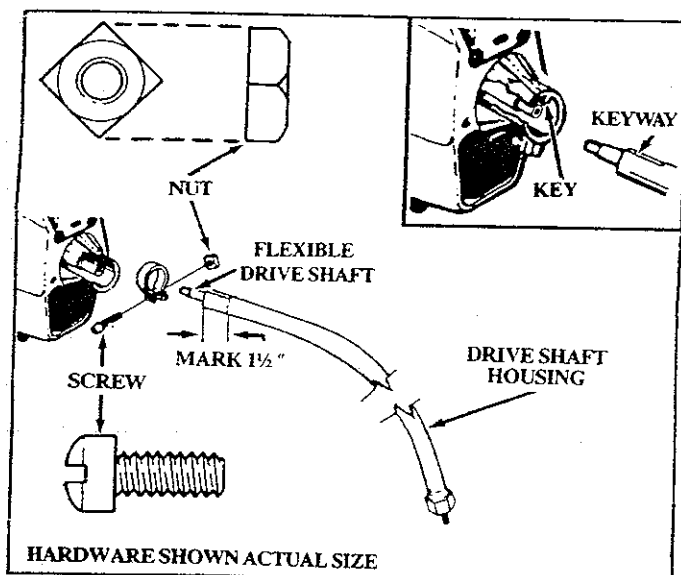

Figure 1
1. DRIVE SHAFT HOUSING — Figure 1
- Mark a line 1-1/2 inches from the straight end of the Drive Shaft Housing. Figure 1.
- Place the Clamp from the loose parts bag on the Engine Shroud as shown in Figure 1.
- Align the keyway in the Drive Shaft Housing with the key inside the Engine Shroud Opening. Figure 1.
NOTE: The Drive Shaft Housing must be positioned as shown in Figures 1 and 5.